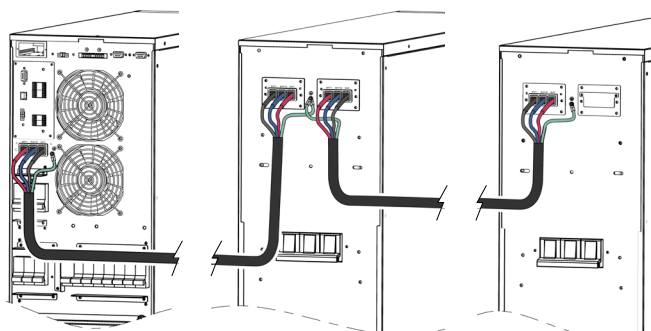
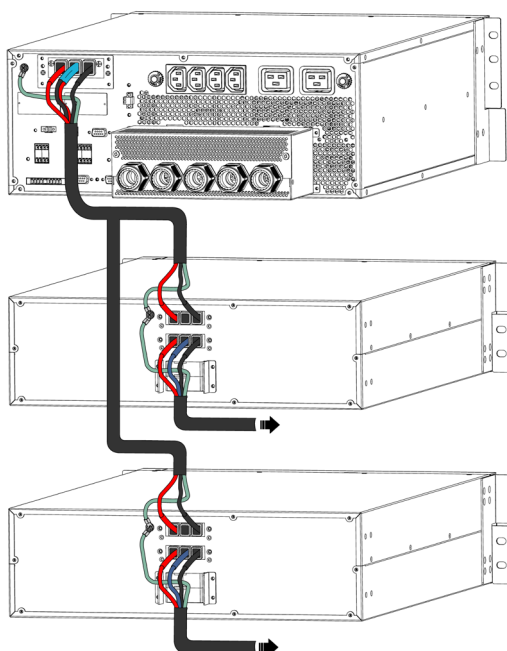

Fig. 41. Connection between the UPS and one or several battery cabinets.
Fig. 43. Connection between the 7.5 and 10 kVA rack version UPS and one or more battery cabinets.
- For extended autonomy where **more than one module or battery cabinet** is supplied, the connection will always be in parallel between them and the unit (see Fig. 41 to Fig. 43). That is, a cable of the same colour, from the UPS negative to the negative of the first battery cabinet and from this to the negative of the second battery cabinet, and so on. Proceed in the same way for the connection of the positive cable, for the middle tap cable (N) and for the green-yellow earth connection.